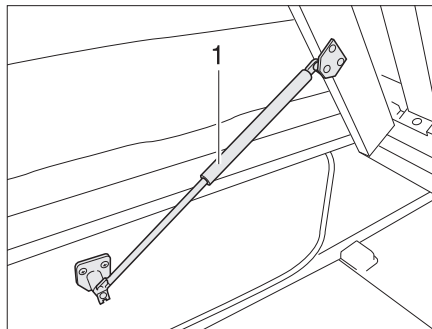

Fig. 61 Fixed bed
- Lift slatted frame. The gas-pressure springs (Fig. 61,1) hold the slatted frame open.